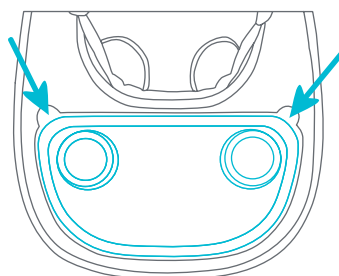

Fig. 9b
- When facing the walker, remove the tray insert by pulling the corner tabs toward your body first, then pull up to release (Fig. 9b).